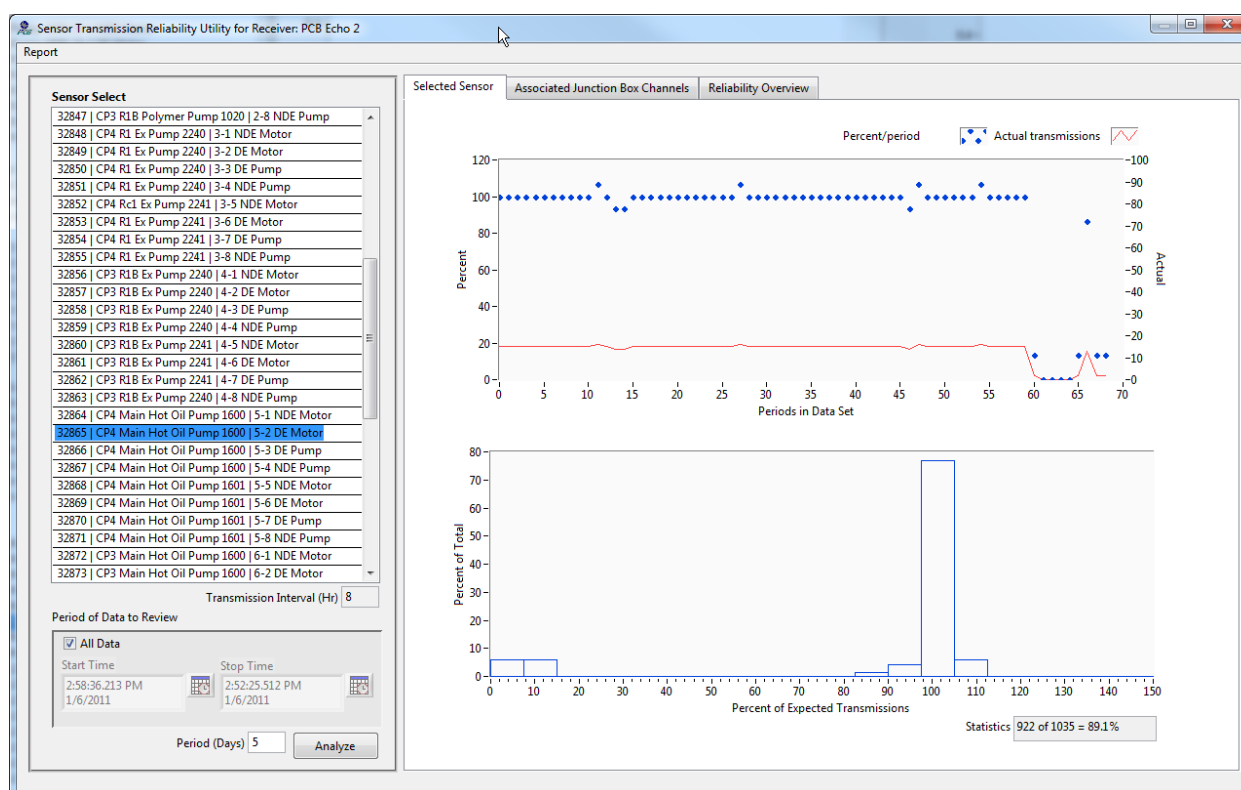

Figure 86 – Echo® Sensor Transmission Reliability Utility – Selected Sensor Tab
- **Selected Sensor Tab**(Figure 86) - This tab contains two graphs and an overall statistic of how many transmissions were expected and how many were received.
- The graph on the bottom is a histogram of how often, in groups of 10%, that percent of transmissions was achieved. In the bottom graph shown in Figure 86 we see that 100% of the selected sensors transmissions were received almost 80% of the time for the period reviewed. This is excellent since occasionally more than 100% were received, which can happen if the power is cycled on the sensor to produce 'extra' transmissions. And we see the over some periods 0% were received indicating power was likely removed for maintenance or some other reason.